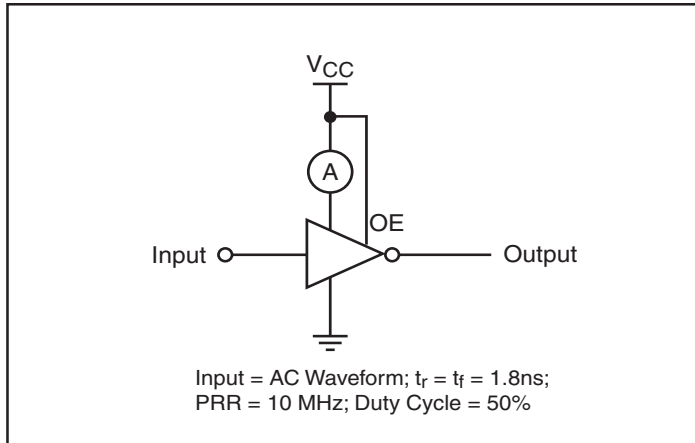

Figure 2.  $I_{CCD}$  Test Circuit
- CPD is defined as the value of the internal equivalent capacitance which is derived from dynamic operating current consumption (ICCD) at no output loading and operating at 50% duty cycle (see Figure 2). CPD is related to ICCD dynamic operating current by the expression: ICCD = (CPD)(VCC)(fIN) + (ICC static).